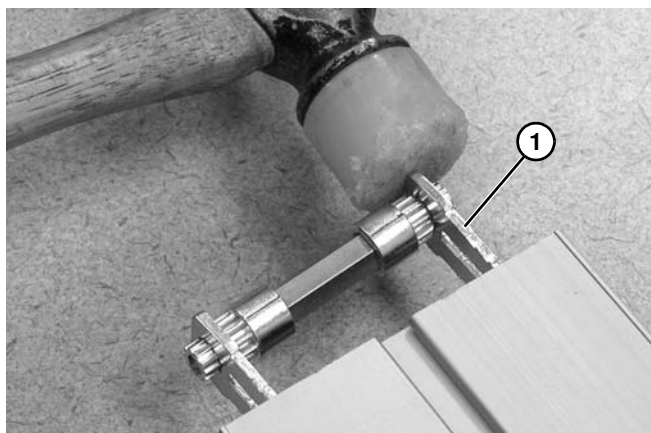
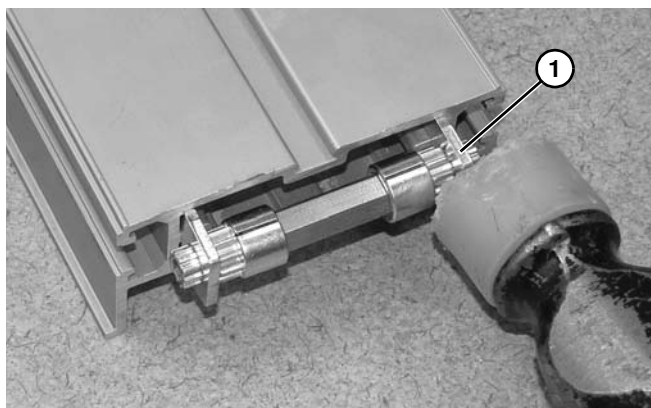

Figure 147
Figure 148
8. Tap alternating retaining plates (**Figure 147, item 1**) and (**Figure 148, item 1**) with a hammer until fully assembled onto conveyor frame.